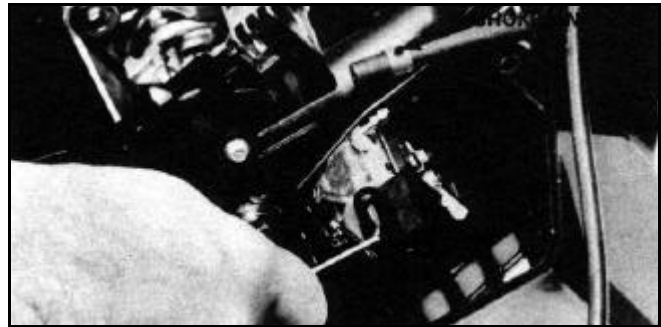

Figure 203
6. As the carburetor is being removed, disconnect the choke linkage from the choke lever (Figure 203).